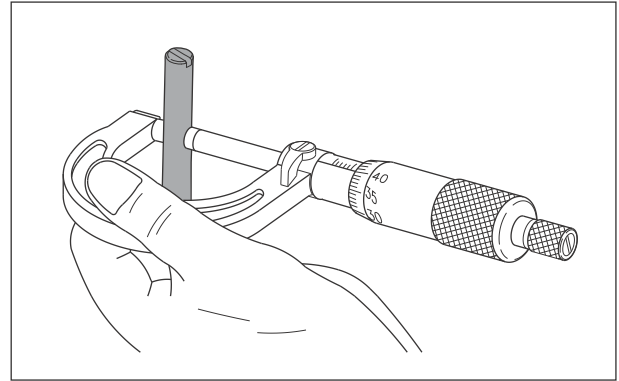

Fig. 3.60
- Inspect the shaft valve rocker arm for any damage. Measure the outer diameter (OD) of shaft valve rocker arm. If the OD is less than the service limit, replace the shaft. (Fig. 3.60)